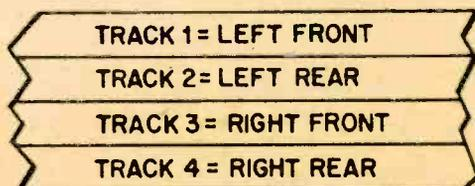

Fig. 2—Quarter-track tape arranged for four-channel system of Vanguard. Tracks 1 and 3 are compatible with two-channel playback equipment.
**Power Supply.** The power supply (Fig. 2) delivers rectified and filtered DC power to the circuits. Refer to bridge rectifier BR1 and filter capacitor C28 provide +13 V to power the logic circuits in the sweep generator. The +13 V is regulated down to about 8 V by zener diode D6 to power low-level amplifier stages and other parts requiring a stable DC voltage. Capacitor C26 provides further filtering.
Obviously, four-track recording tape easily adapts to the needs of four-channel stereo. Fig. 2 shows a strip of conventional quarter-track tape with the tracks arranged for four-channel playback. Vanguard Records is now preparing a catalog of prerecorded four-channel tapes and at least one other major record company is expected to follow suit this year.